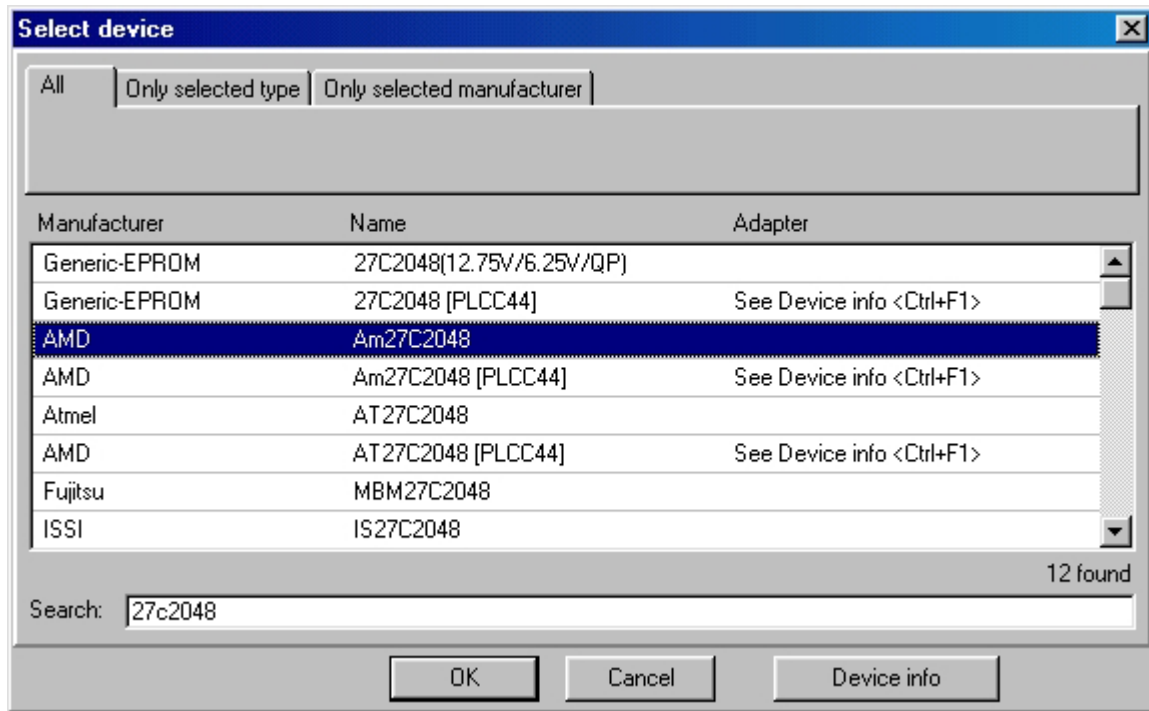

FIGURE 8: DEVICE REQUESTER
- Select the device You want to program, either through the Device/Select menu or the keyboard shortcut <Alt+F5> (press key <F5> while keeping Alt key pressed). In Window version of program, a requeste like in figure 8 appears.